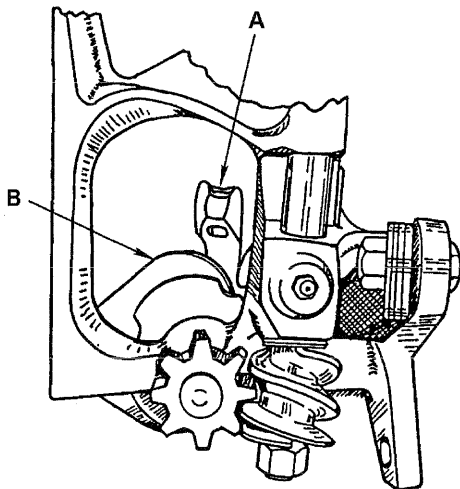

FIG.5
A. Trip the knotter clutch and swing the needles up through the bale chamber by turning the flywheel clockwise by hand. The needles "A" should be adjusted left or right so that there is 0 to 1/32" clearance between the needle and the knotter hook pinion "B," Fig 5. Adjust by sliding the needle left or right on the needle yoke.